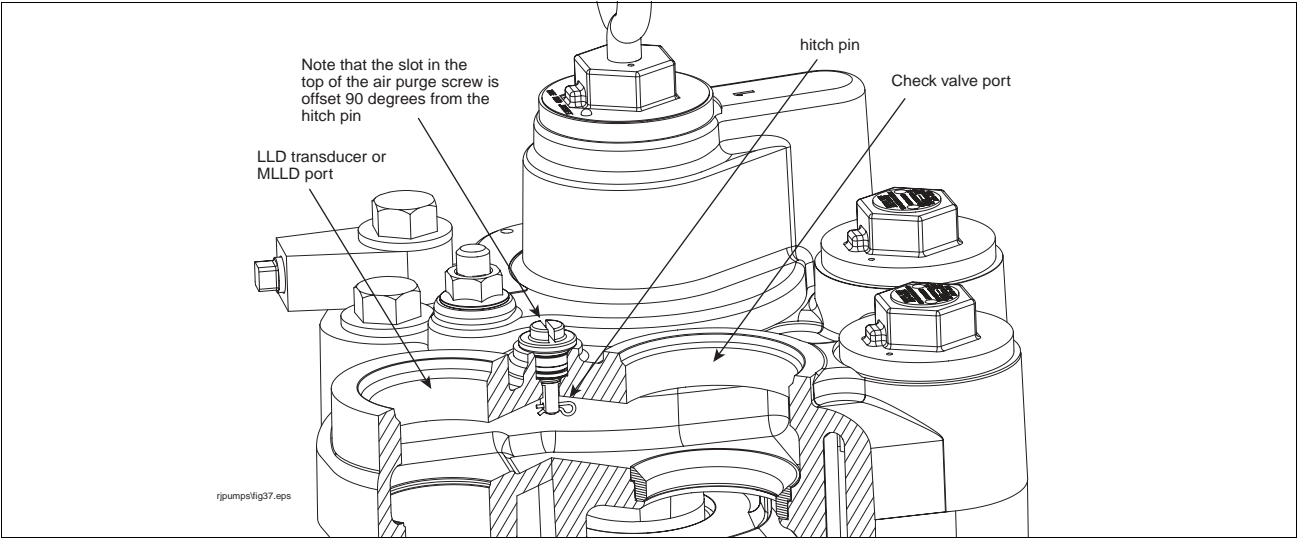

Figure 46. Locating air purge screw hitch pin
6. The air purge screw has a hitch pin that is set in the horizontal position to limit travel of the screw (see Figure 46).